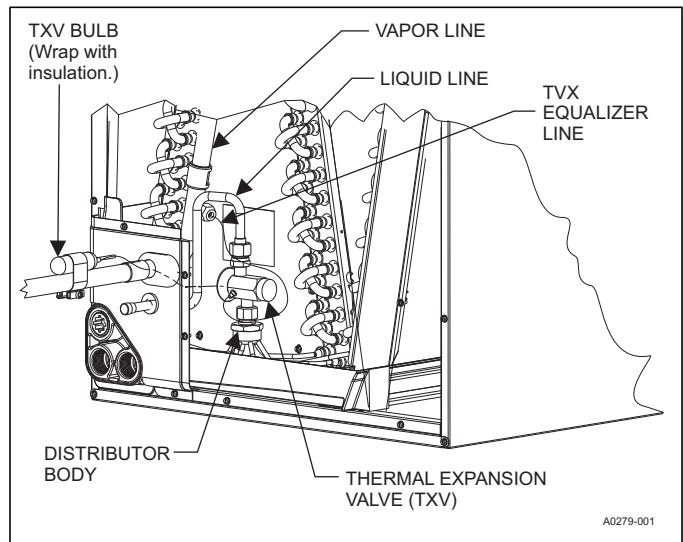

FIGURE 7: TXV Bulb and Equalizer Line Installations
- Install the TXV equalizer line onto the vapor line by hand tightening the 1/4” SAE coupling nut to the equalizer fitting, and apply an additional 1/3 turn to seal. See Figure 7.
8. Install the TXV bulb to the vapor line near the cabinet, using the bulb clamp(s) furnished with the TXV assembly. Ensure the bulb is making maximum contact. See Figures 7 and 8.